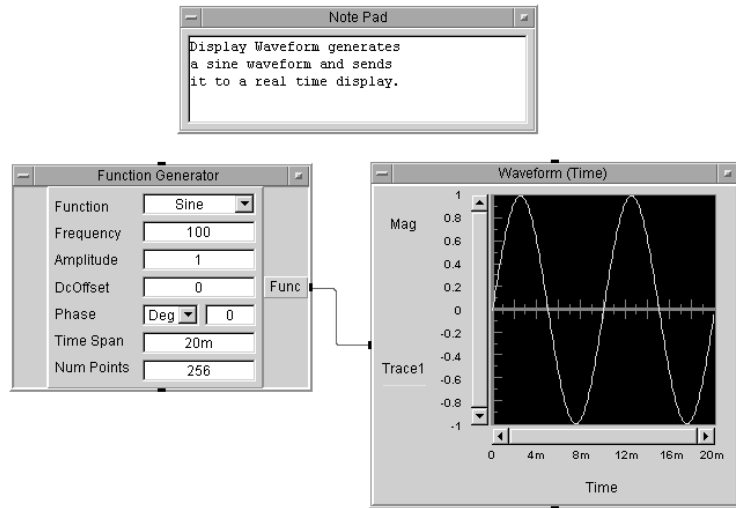

Figure 27 Changing the Function Field to Sine Wave
- Continuing with the same example, click Cosine (or the arrow) in the Function field. A drop-down list of selections appears. Click Sine to select the Sine function as shown in Figure 27, noticing that the Function field has changed from Cosine to Sine.